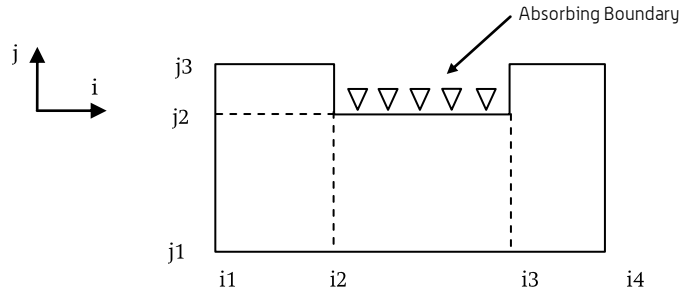

Figure 32
2. Unless otherwise specified, all nodes on boundaries are assigned as free, or unconstrained. To apply an absorbing boundary to the highlighted section of Fig. 32, it is necessary to specify nodes; using “side” would not work. This is a technically more advanced method, which we will not discuss in detail here.
where the <dataname> is the name or names of the data arrays you wish to store. For example, “zdsp” is the displacement in the z direction, and “pres” is the pressure front. Time histories can also be output directly in a MATLAB type format as well. See the table at the end of this section for a complete list of available datanames and the required “calc” option. The code segment below shows a common time history definition for the piezoelectric model in Fig. 32.